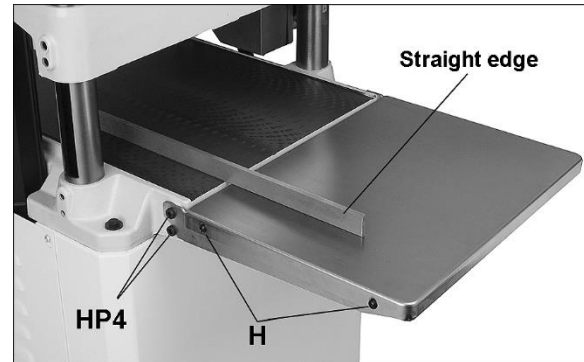

Figure 5-4: extension tables (JWP-15B only)
but a carefully jointed board may also be used. Place the straight edge across extension table and main table, as shown in Figure 5-4. Move the straight edge to different places along the table width during the alignment process.
3. Place a straight edge (straight steel bar or carefully jointed board) across extension table and main table, as shown in Figure 5-4.